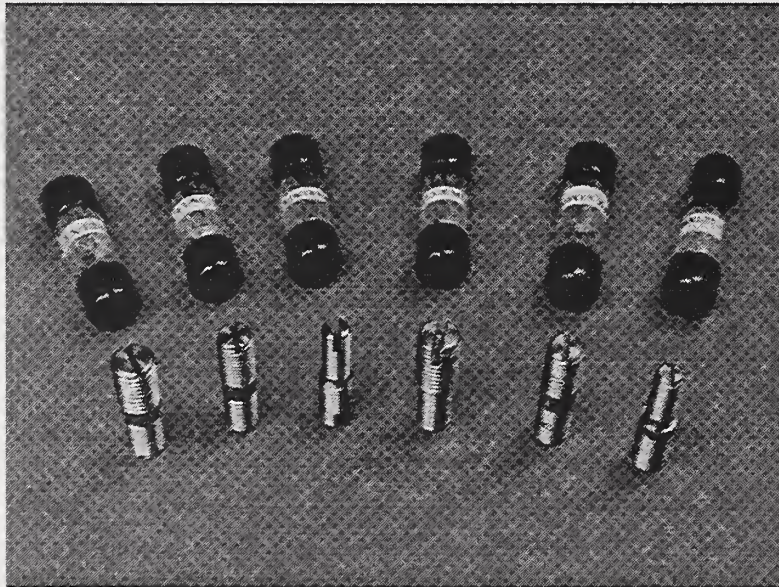

Figure 13. Threaded stud adapters (six available sizes)
- 1** threaded stud adapter to attach the ITA to the table (Figure 13).